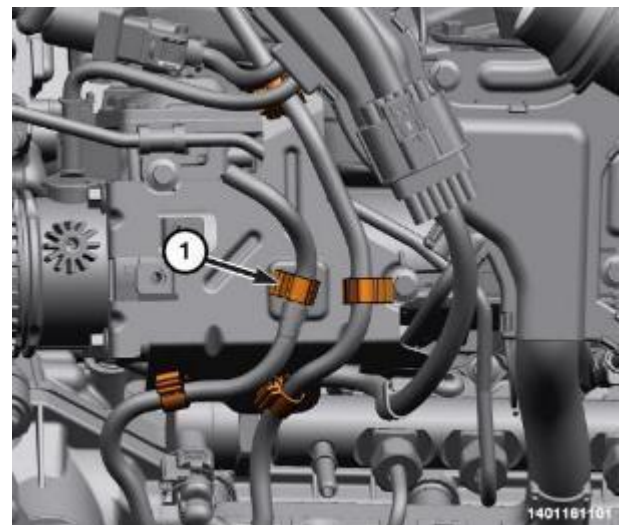

Figure 21 – Fuel Return Hose Retainers
42. Detach the retainers (1) securing the fuel return hose to the fuel line support bracket (Figure 21).